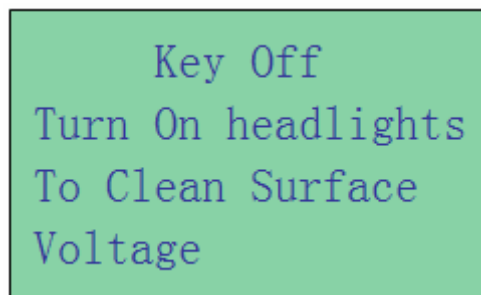

Figure 6
8. If the surface voltage is too great for the Analyzer to handle, it will prompt you with the instructions as shown: (Fig.6) below